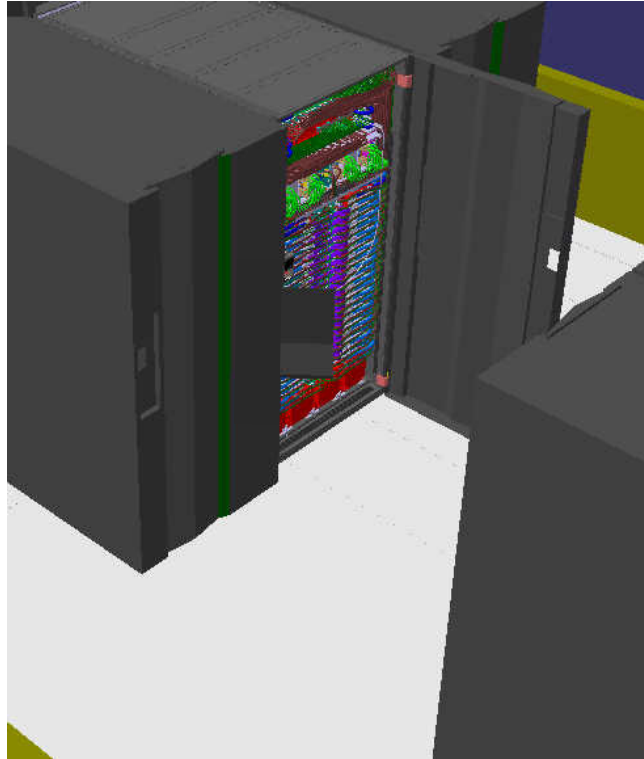

Figure 5 Front Door Open
11. Open the front door as shown in Figure 5 below.